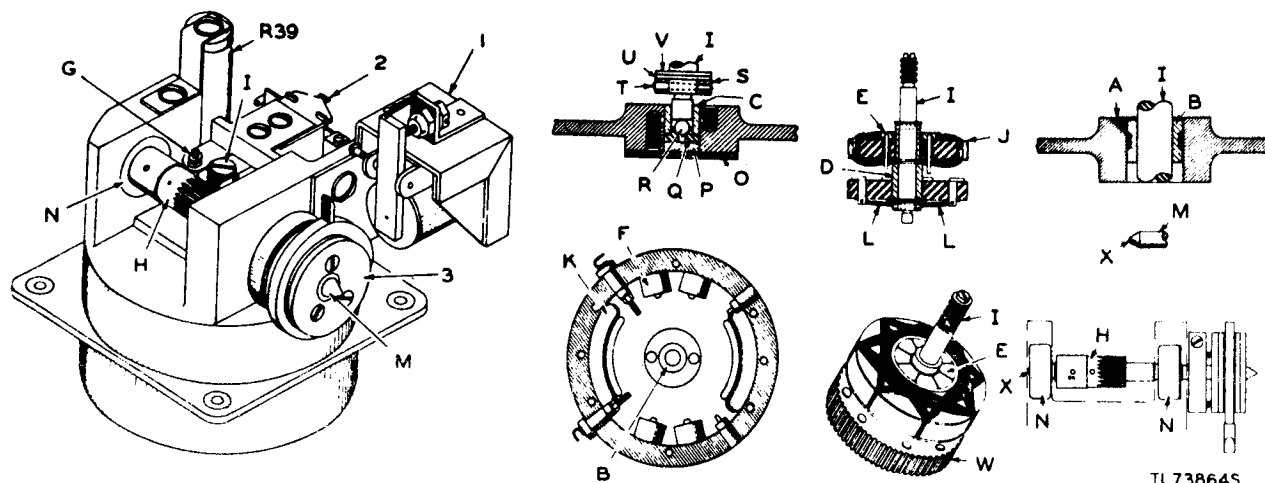

Figure 105. Synchronous motor, early models.
(figs. 105, 106, and 107)
**Caution:** Work on the synchronous motor should be done in a clean, dry place. Disassemble and assemble motor parts with care, avoiding risks of scratching and damaging any of the machined surfaces. Be careful not to lose the lower thrust bearing ball (R, fig. 105) when disassembling the motor.
*a. Top Bearing (B, fig. 105).* It is not practical to replace this bearing in the field. Use solvent (SD) to remove gummed-up oil and grease. After
*b. Lower Bearing (fig. 105).* In motors with serial numbers below 1157, do not attempt to replace the side-wall bearing in the field. Clean and re-oil. In motors with serial numbers above 1157, side-wall bearings (C, fig. 105) are of the ball-bearing type. These bearings may be replaced when defective. If tests indicate that synthetic rubber pad P is too soft, replace it. If the pad is too hard, a portion of the center can be cut away. If bearing ball R is replaced, select one that will not bind on the side wall of the bearing.
*c. Synchronous Rotor Bearing (D, fig. 105).* This bearing cannot be replaced in the field. If the rotor turns too freely on the shaft and does not fall into synchronism as it should, the free oscillating action must be reduced by adding some end thrust. Insert a thin washer (U) between the felt washer (V) and collar (S) Remove the collar after driving out the taper pin (T) with a
e. *Synchronous Motor Field Coils* (F, fig. 105). In emergencies, a defective coil can be disconnected and the motor operated on three of its four coils. The power will be reduced, making it difficult to phase. Motors with serial numbers above 1000 have six poles; those below this serial number have four poles. The removal of one coil does not materially reduce the motor power. When ordering replacement parts, be sure to select the proper replacement coil. For replacement of synchronous motor coils and bushings on synchronous motors KBA-1 and KBA-2, use the appropriate Signal Corps Motor Coil Replacement Kit.
h. *Synchronous Motor, Parts Description* (fig. 105).
i. Gear (H) (fig. 105). The gear on the drive shaft can be replaced if suitable shop facilities are available. Pin the new gear to the shaft with a taper pin. Sometimes, a damaged gear can be moved along the shaft and pinned in a new place so that 23 good portion of the gear will mesh with the worm.